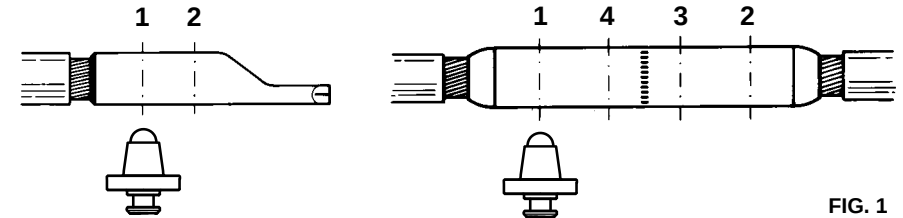

FIG. 1
- Locate the lower part of the pre-rounding die into the ram (2) by pulling knob (20).
- Insert the upper part into the guides of the fork and push to lock it into the operating position according to the grooves on the sides of the pre-rounding die, which must correspond with grub screw (8) on the arms of the fork.
- Insert the indenter **PS 230...** (88) into the ram (2) by pulling knob (20).
- Locate the connector into the containing die (89), positioning the containing die into the fork (5), pushing it until locked in the operating position (when the grooves on the sides of the dies correspond with the grub screws (8) on the arms of the fork).
- Commence indent crimping from the barrel end for both splices and terminals, following the sequence in FIG. 1.
- Insert the indenter **PS 130.../E** (92) into adaptor **AU 231-PS/E** (90) pressing the pin to release the dies and slide it until it is blocked by the pin (84).
- Locate the connector in the containing die (93); position the containing die into the adaptor each time, pushing it until locked into the operating position (when the upper grooves correspond with the grub screws inside the adaptor).
- For every operation, ensure the die is correctly located in the adaptor with its upper slots in line with the internal adaptor pins (see FIG. 1).